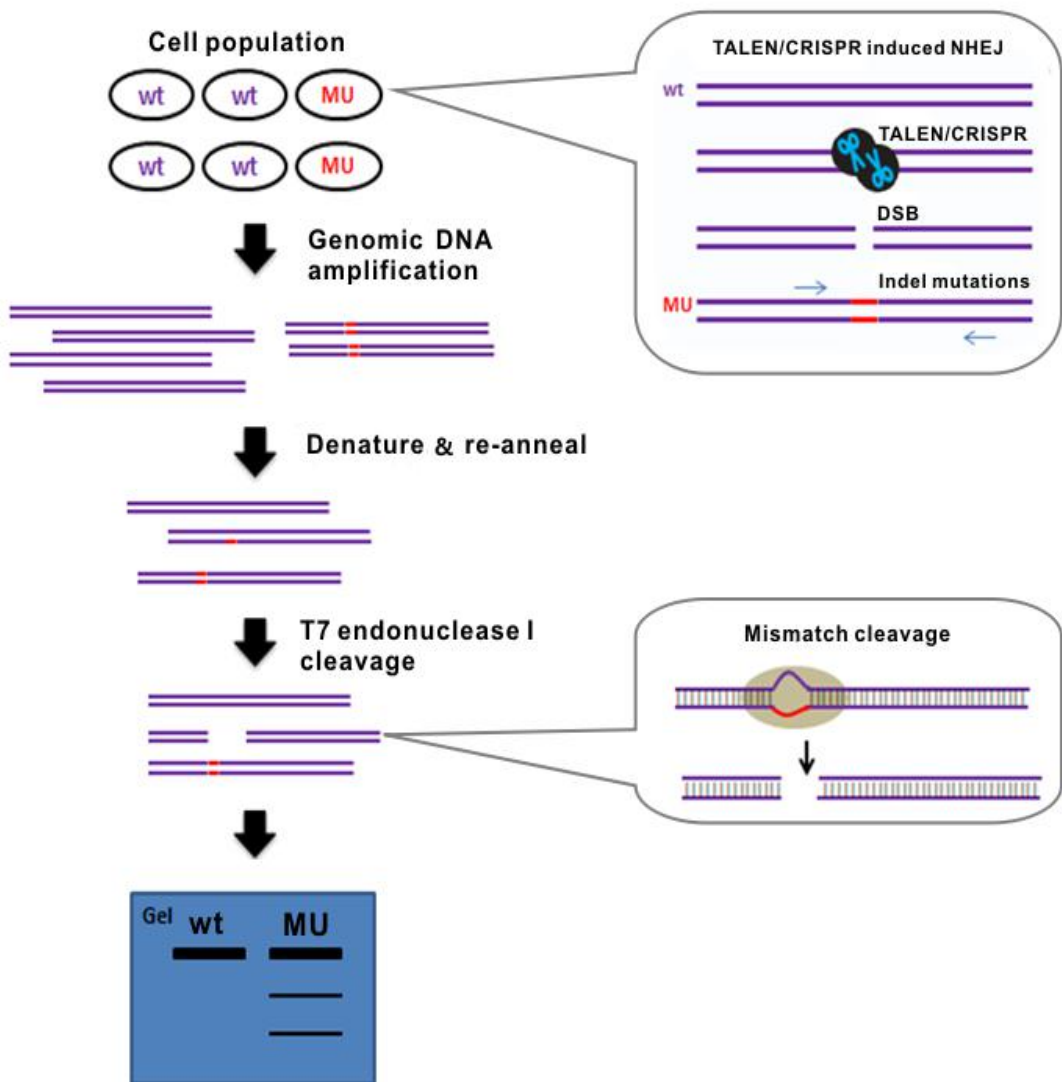
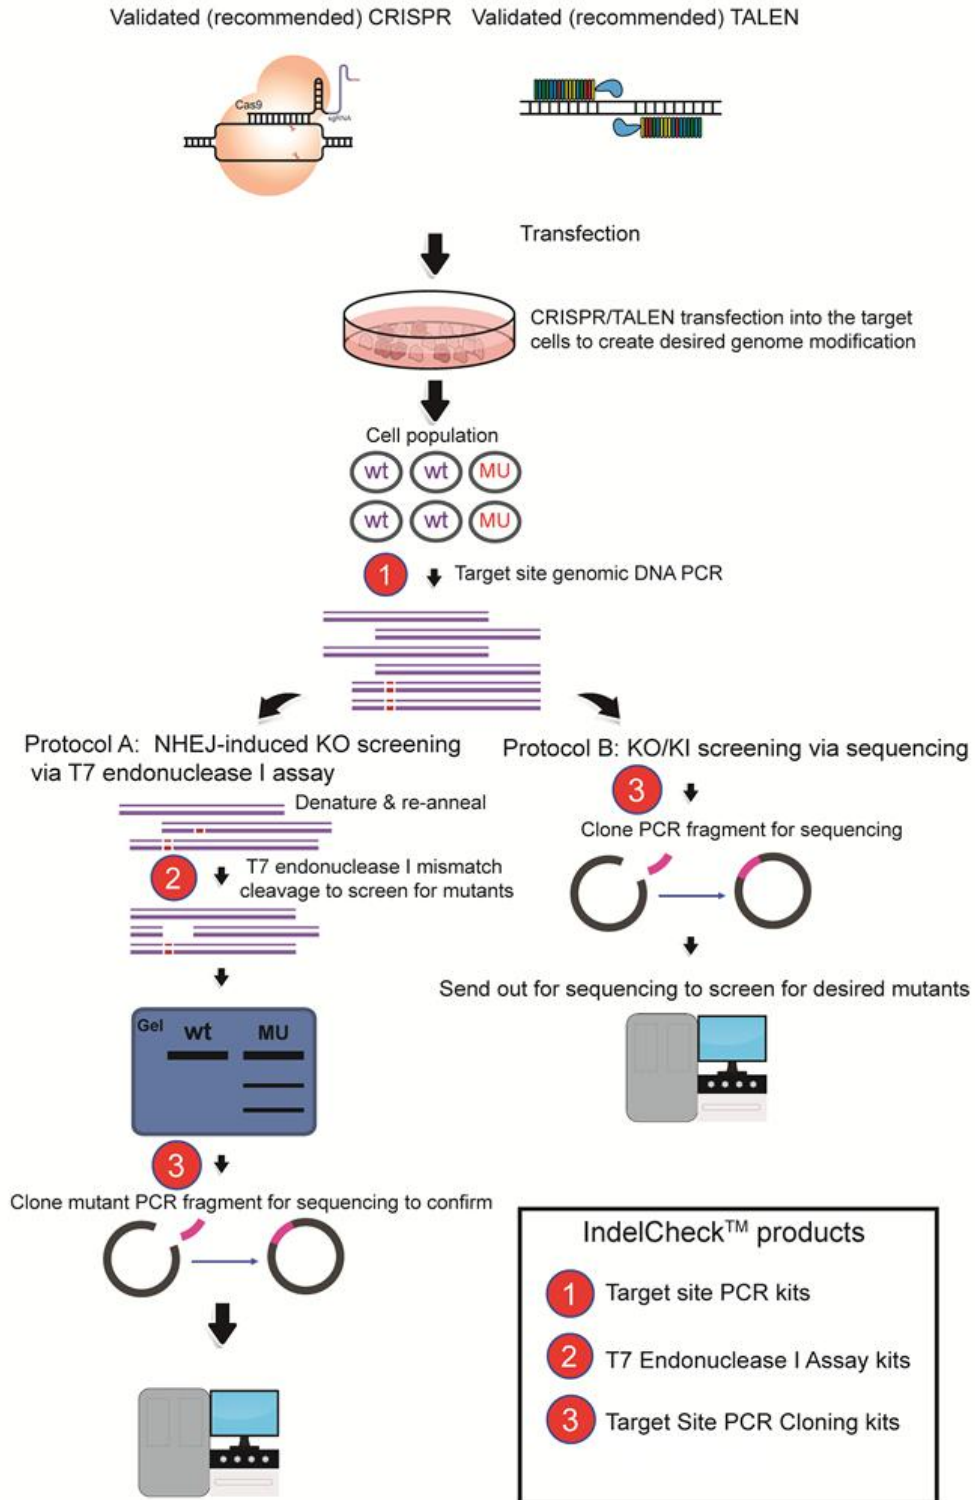

Figure 1. CRISPR or TALEN functional validation using the mismatch cleavage assay.
Figure 2. Using the IndelCheck™ system to screen for cell clones carrying desired CRISPR- or TALEN-mediated genomic modifications.
T7 endonuclease I can recognize and cleave such mismatched DNA. By incubating the re-annealed PCR fragments with T7 endonuclease I, if two shorter bands of the predicted size are generated, it usually means that CRISPR/TALEN has successfully introduced indel mutations at the targeted chromosomal site. The IndelCheck™ mismatch cleavage assay (using T7 endonuclease I) can be used for **1) functional verification of sgRNAs and TALENs** (Figure 1), as well as **2) screening cell clones for knockout (KO) and knock-in (KI) modifications** (Figure 2).
The **Target Site PCR Cloning kit** (IC007, IC008) includes T4 DNA ligase, a blunt-end vector, and sequencing primers for cloning and sequencing target site PCR products, for sequence verification of the target site in the genome. (Figure 2). The blunt-end vector contains a lethal gene between the insertion sites to minimize background, vector-only ligation.